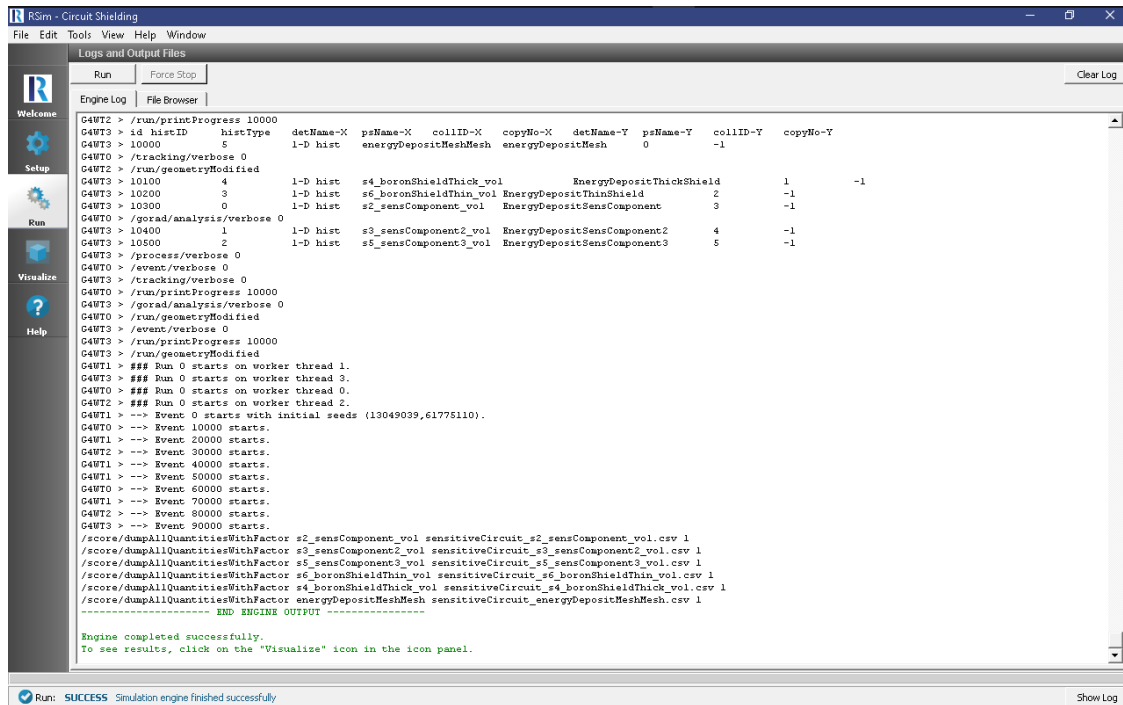

Fig. 2.26: The Run Window at the end of execution.
- To run the file, click on the *Run* button in the upper left corner of the *Logs and Output Files* pane. You will see the output of the run in the right pane. The run has completed when you see the output, “Engine completed successfully.” This is shown in Fig. 2.26.